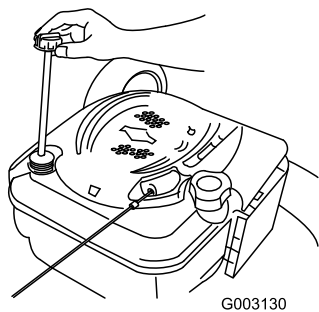

Figure 35
2. Remove the dipstick (Figure 35).